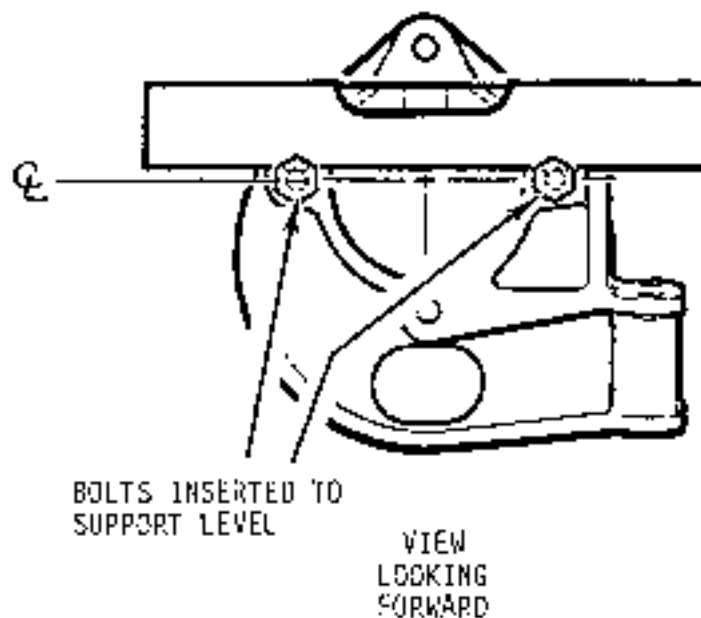

FIGURE 4-2A TAIL CONE LATERAL LEVELING
3. Refer to Figure 4-2A. Insert two bolts into horizontal mounting holes in tail rotor gearbox mount casting at aft end of tailcone. Place a bubble level across these bolts and level tailcone horizontally by turning it on the steel tube frame.